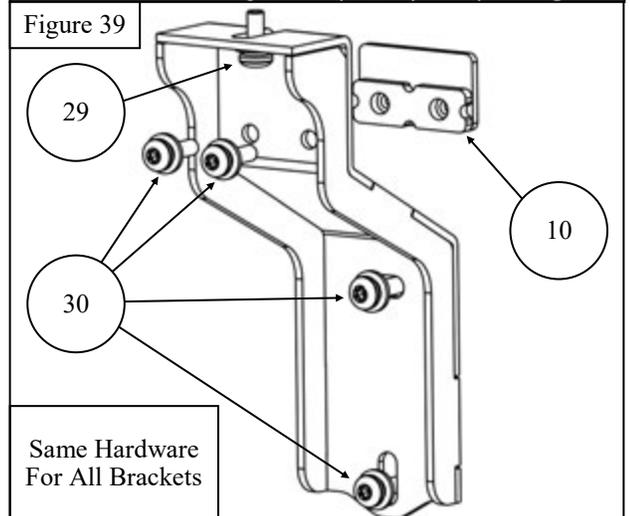

Figure 39
22. Use two M6 Torx combo bolts (**Item 30**) on each mounting bracket to attach them onto the bed wall and one M6 Allen combo bolt (**Item 29**) to attach the mounting brackets to the side rails. See **Figure 39**.